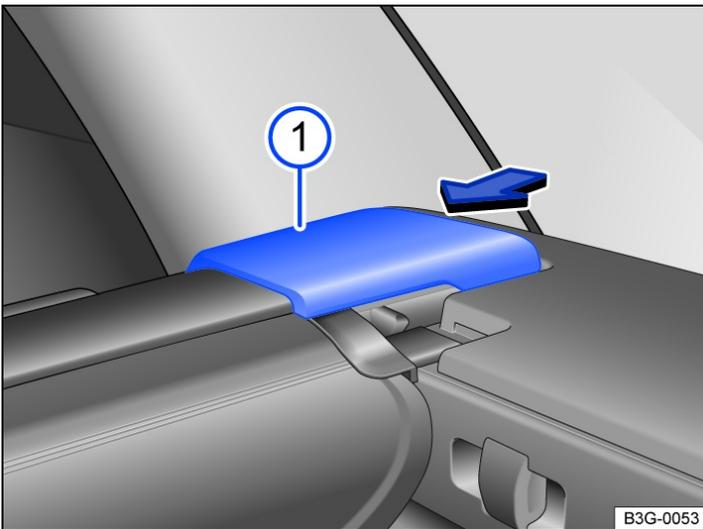

Fig. 1 In the luggage compartment: removing the luggage compartment cover.
2. Press the side panel on the luggage compartment cover → *fig. 1* 1 in the direction of the arrow and hold it in place.